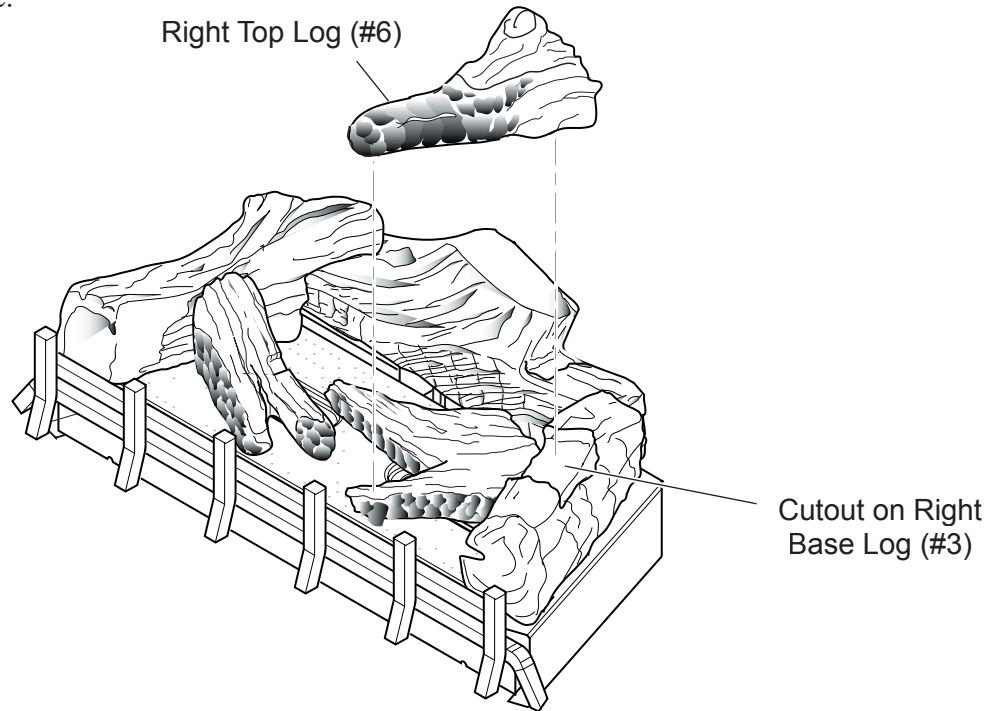

Figure 23 - Installing Right Top Log #6
- Place one end of right top log (#6) on cutout of right base log (#3). Line up other end on right center log (#5). See *Figure 23*.